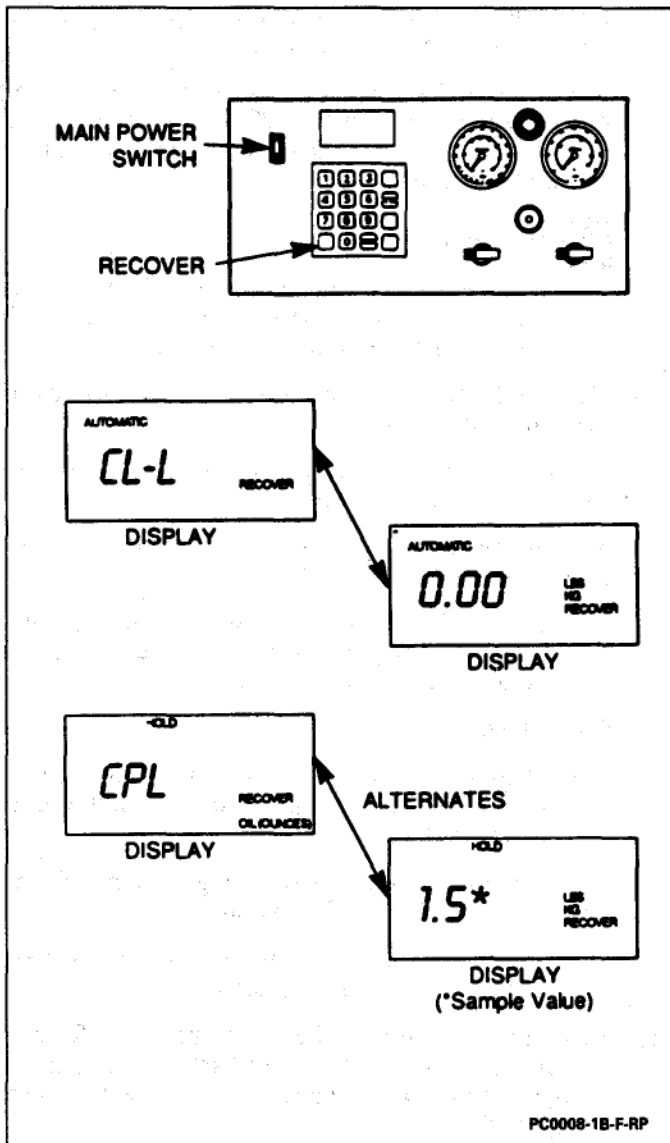

Figure 9 – Refrigerant Recovery
11. Press "RECOVER" on the keypad. Before recovery begins, the unit will clear itself of refrigerant. "CL-L" will appear on the display. The cleaning process takes from thirty seconds to three minutes to complete (Figure 9).